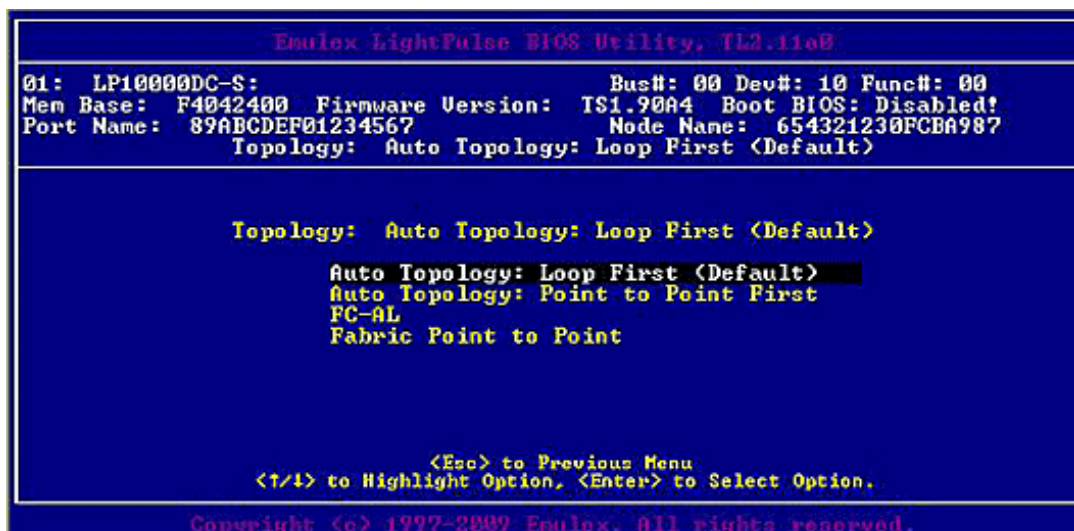

Figure 4-12 Topology Menu
2. Select **Topology Selection**. Information similar to Figure 4-12 is displayed.